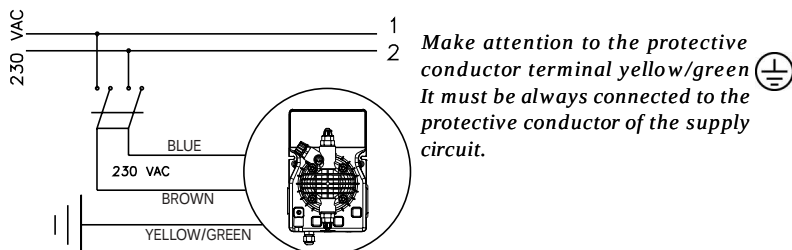

Fig. 4
b. - Carefully observe the regulations in force in the various countries as regards electrical installations (Fig.4). **When the supply cable is devoid of a plug, the equipment should be connected to the supply mains by means of a single-pole circuit breaker having a minimum distance of 3 mm between the contacts. Before accessing any of the electrical parts, make sure that all the supply circuits are open.**